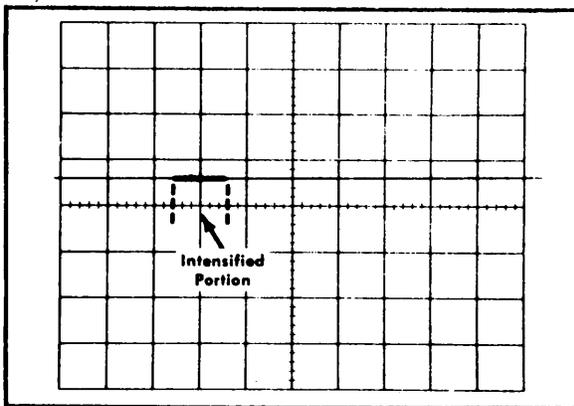

Fig. 5-6. Typical CRT display showing correct Intensifier circuit operation.
f. Check—That an intensified portion appears on the trace (see Fig. 5-6). If the display appears only as a shortened trace, increase the INTENSITY control slightly until the complete trace, showing an intensified portion, appears.